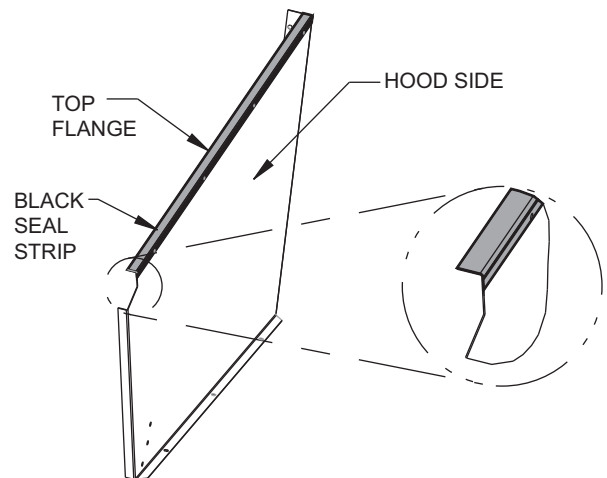

Fig. 24 — Adding Seal Strip to Top of Hood Sides
1. Apply black seal strip (provided) to outside top-edge of hood sides. Wrap seal strip over edge to cover top flange (2 hood sides per hood assembly). Make sure seal strip covers screw holes. See Fig. 24.